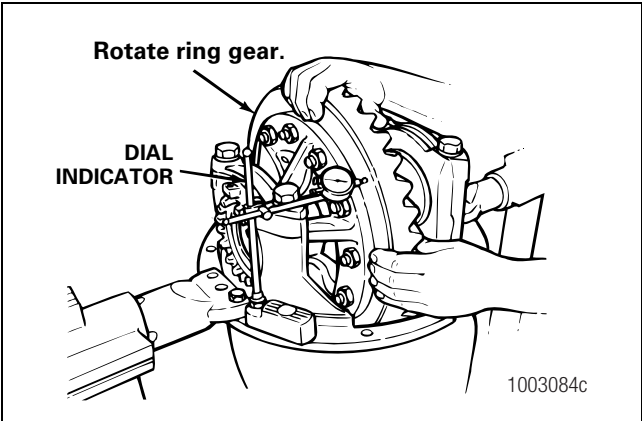

Figure 5.59
- 1. Attach a dial indicator onto the carrier mounting flange. Figure 5.59.
- 2. Adjust the dial indicator so that the plunger or pointer is against the back surface of the ring gear. Figure 5.59. Set the dial indicator to ZERO.